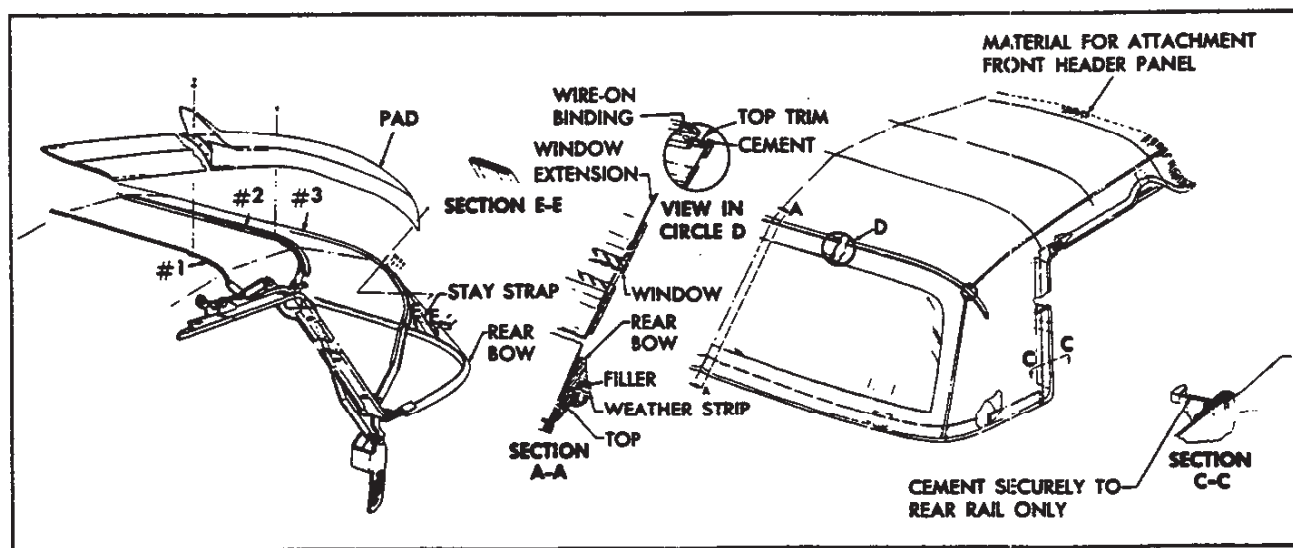

Fig. 64—Folding Top Trim Installation
complete. Figure 64 may be referred to for parts identifications. Lettered sections (i.e. Section A-A) referred to in the instructions may also be found in Figure 71. Note that the sections are illustrated as they would appear if the parts were cut through on the lettered lines on the top assembly and the cut surface exposed. Arrows indicate direction in which you would have to look in order to see the view shown.
8. Draw window extension up to #3 bow, aligning centering marks. Turn an ample amount of fabric under and tack to #3 bow. Apply neoprene trim cement, GM Part #3695016 or equivalent, to area shown in View D of Figure 64. Follow directions on package.
as shown in Figure 71 and View D of Figure 64. Install binding caps.